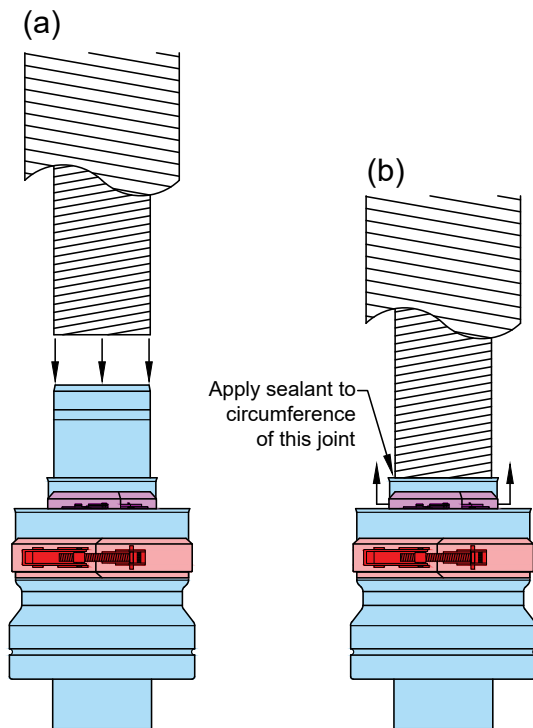

Figure 4-5: Fitting inner flue liner to adaptor
- Place the two stainless steel clamp bands on the adaptor and ensure the straight edge of both clamp bands is pointing down (to fit onto the outer surface of the adaptor) and the angled edge is at the top (to fit onto the corrugations of the liner). Refer to Figure 4-5 (a).
- Fit the end of the inner stainless steel liner onto the centre connection of the rigid to flexible adaptor. Push inner liner down and into the socket. Refer to Figure 4-5 (a).
- With the inner liner fitted fully into the inner socket of the adaptor, apply a bead of sealant (provided with the flue kit) all around the joint between the top edge of the socket and the inner flue liner and position the clamp band over the joint without disturbing the joint. Refer to Figure 4-5 (b).
The rigid to flexible adaptor must always be fitted VERTICALLY as shown in Figures 4-5 to 4-7.